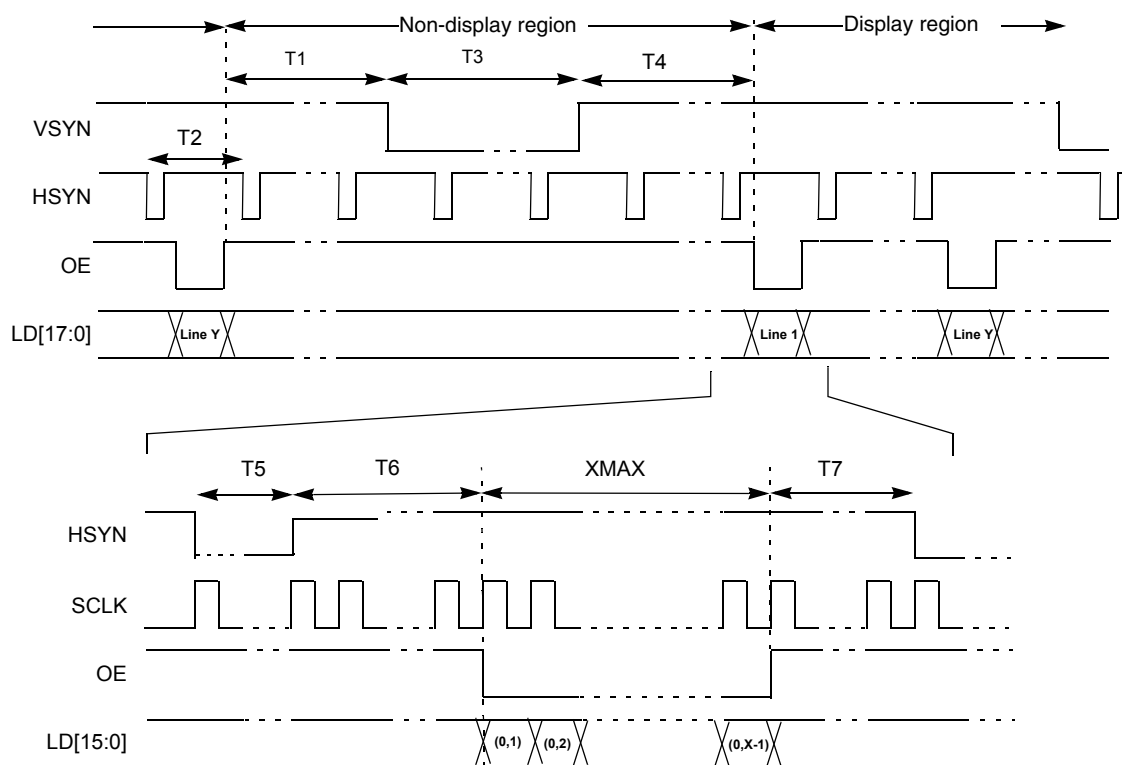

Figure 20. 4/8/12/16/18 Bit/Pixel TFT Color Mode Panel Timing
- VSYN, HSYN and OE can be programmed as active high or active low. In Figure 20, all 3 signals are active low.
- SCLK can be programmed to be deactivated during the VSYN pulse or the OE deasserted period. In Figure 20, SCLK is always active.